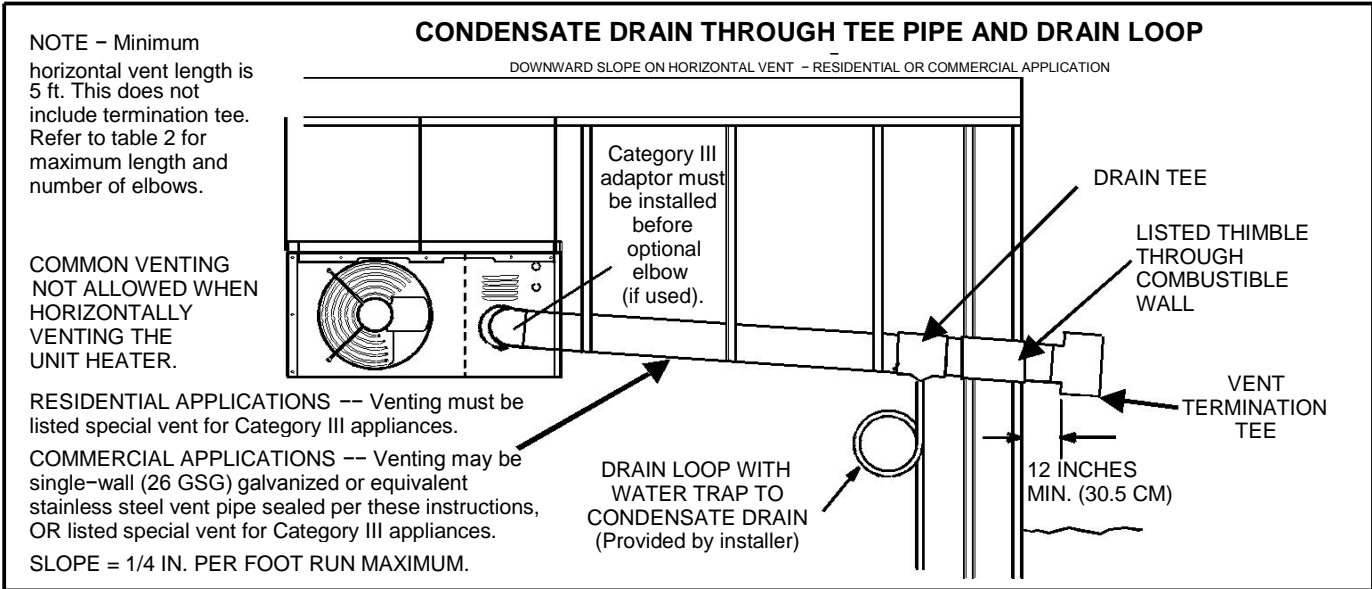
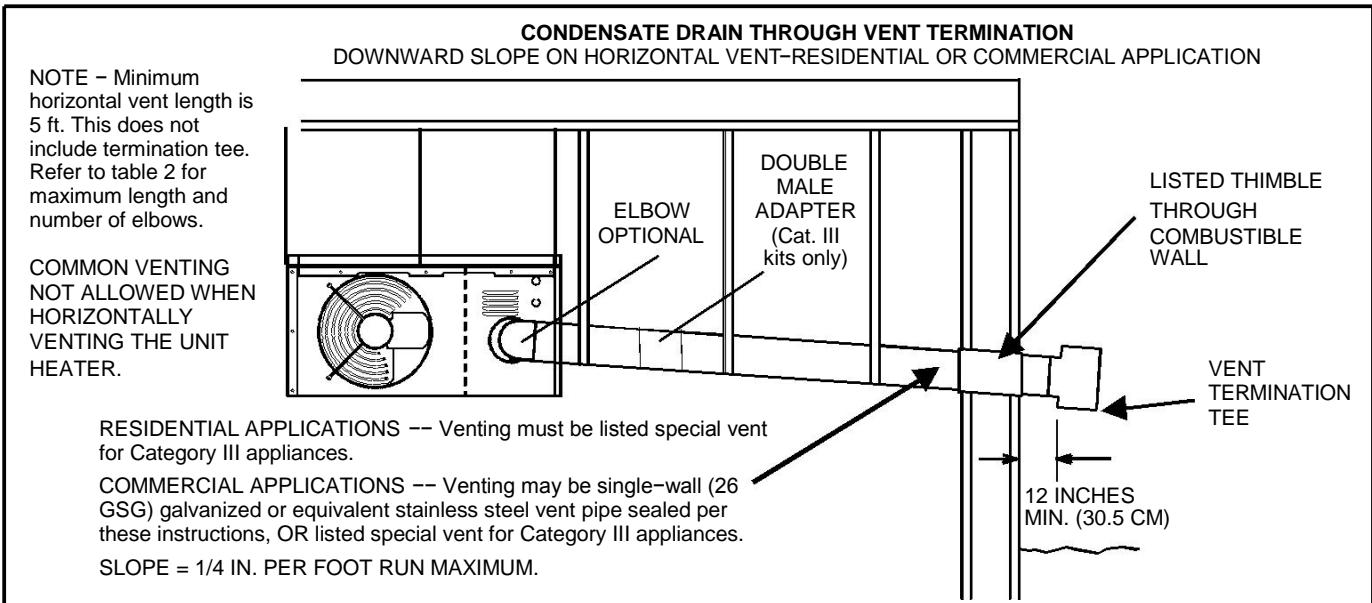

FIGURE 4
FIGURE 5
- 17 – Select a wall termination point that will maintain 1/4" rise per foot slope of horizontal run of vent pipe. In areas where authorities having jurisdiction permit, a downward slope of maximum 1/4" per foot is also acceptable. Condensate drainage can be collected in a tee pipe section (figure 4) with drain loop similar to one used for upward slope vent, or allowed to drip through the vent termination, if permitted by authorities (figure 5).